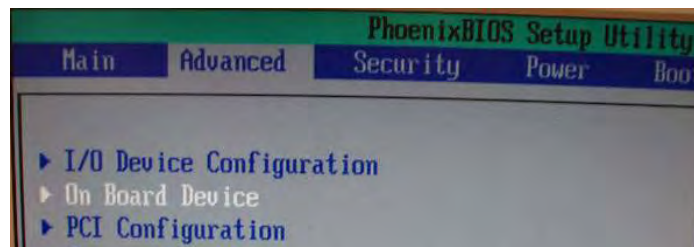

Figure 1-9. BIOS Advanced Menu
3. Use the arrow keys to highlight the **Advanced** menu option. Use the down arrow key to navigate to **On Board Device** (Figure 1-9).